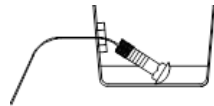

Figure 2
- Pull the pull wire with fasteners into location through the hole. Leave pull wires attached. Repeat the same process on both frame rails. Push the fasteners back into the frame rails with the pull wire attached, to allow the hitch to go into position. See figure 2